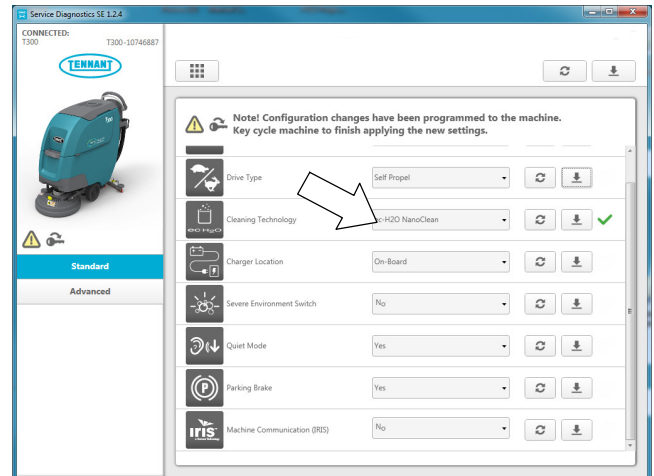

Fig. 43
5. Change the Cleaning Technology to “**ec-H2O NanoClean**” from the pull-down menu (Figure 43). Then press the down arrow button to program the machine. A green check will appear next to the down arrow button when programmed.